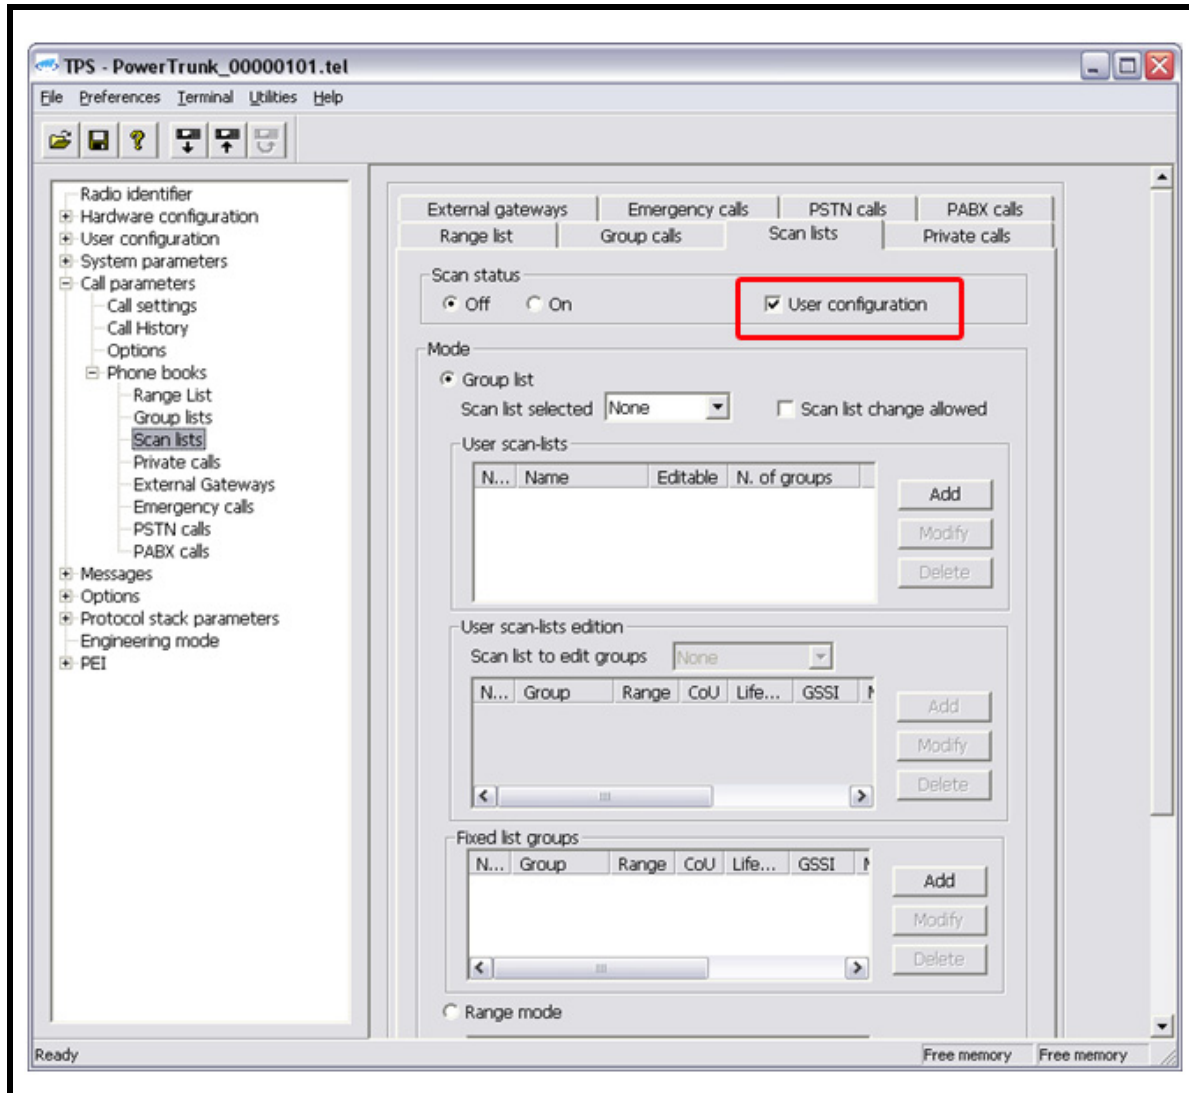

FIGURE 7. Configure Scan Example
- a. Configure all field to match Figure 7.